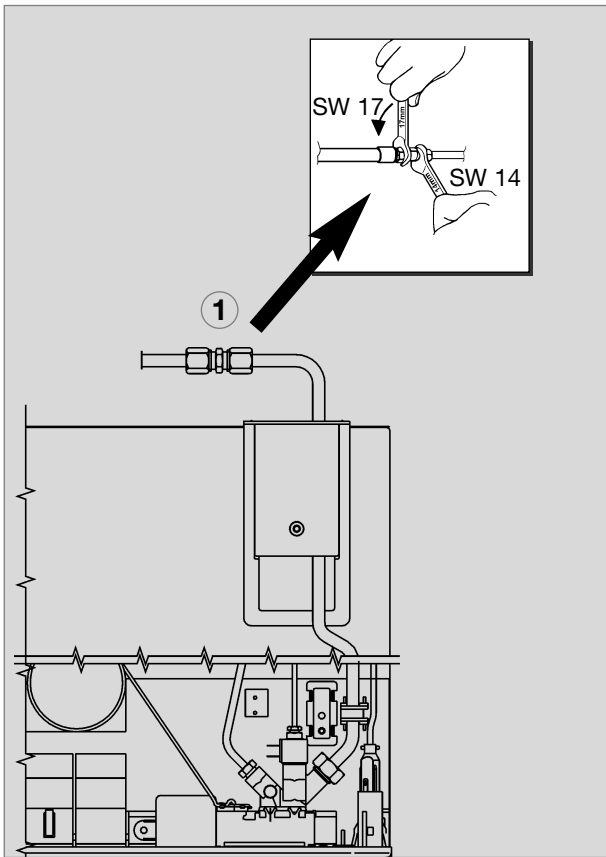

Fig. 37
- The gas connection to the appliance is effected by means of (Ermeto-) olive type fitting L8, DIN 2353-ST, complying with EN 1949 ( s. figure 37, 38).